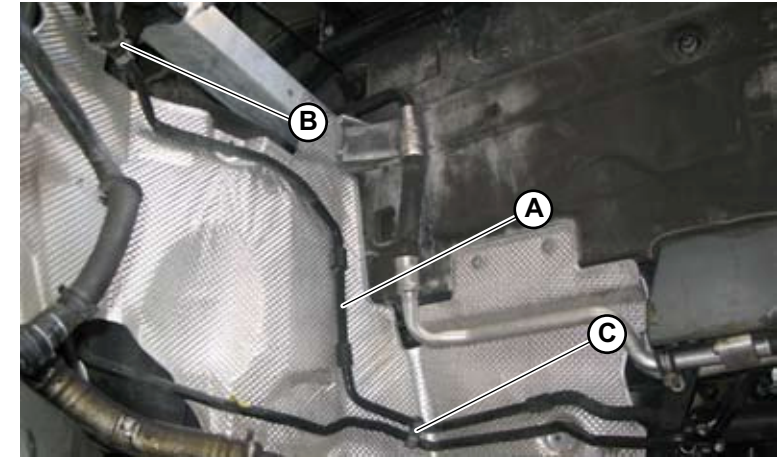

Fig.10
1. Position the rear part (**A-Fig.10**) of the brake vacuum pump pipe.
2. Tighten the screw securing the brake vacuum pump pipe mounting bracket (**B-Fig.10**) to the chassis.
3. Position the fastener (**C-Fig.10**) securing the rear part of the pipe with the power steering circuit return pipe.